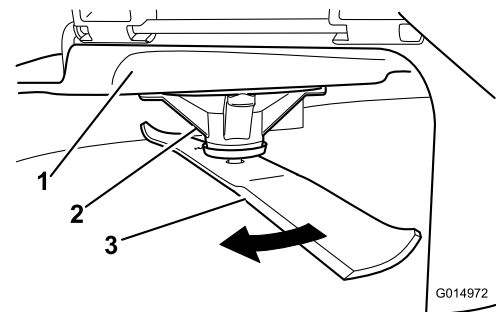

Figure 75
2. While wearing thickly padded gloves, or other adequate hand protection, slowly rotate the blade into a position that allows you to measure the distance between the cutting edge and the level surface the machine is on (Figure 75).